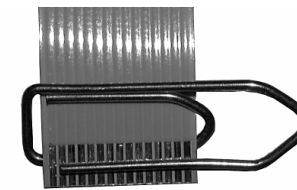

fig.1
2. Put a paperclip onto the flexfoil cable to short-circuit the contacts (fig.1)